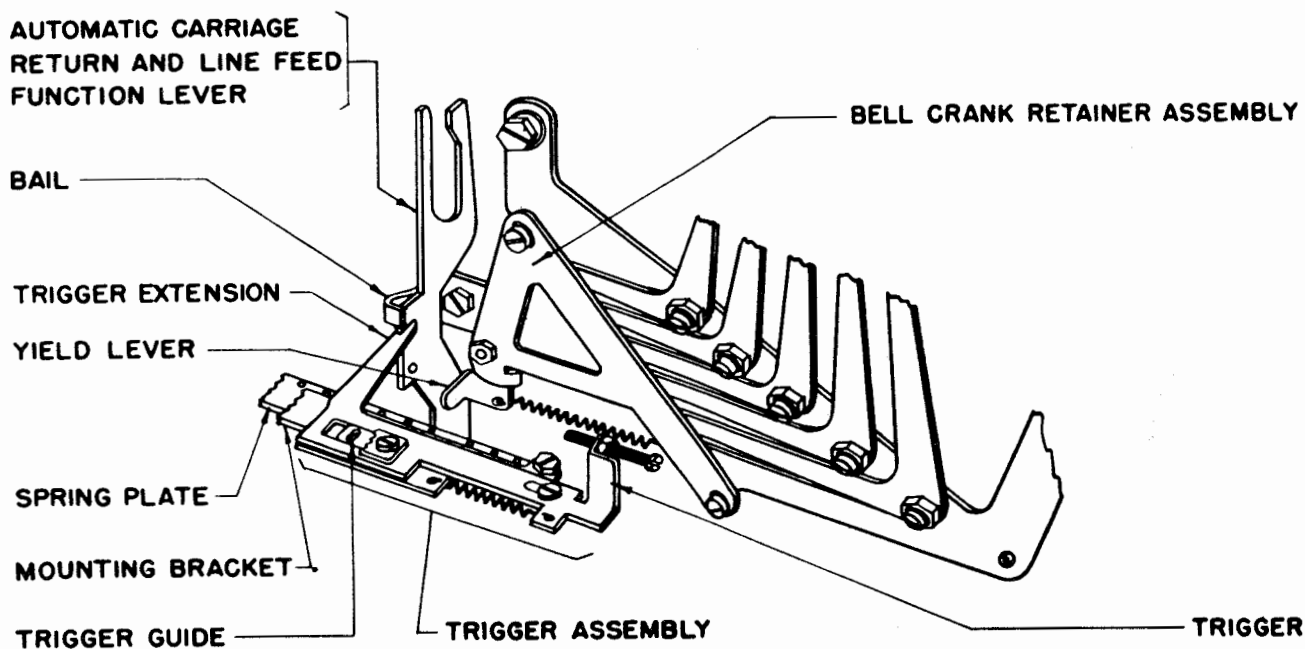

Figure 24
**14.11 Bell Crank Retainer Yield Lever Spring Tension:** Hook a scale over the end of the yield lever and pull horizontally in line with the spring. It should require 24 to 32 ounces to start the arm moving. See Figure 24.